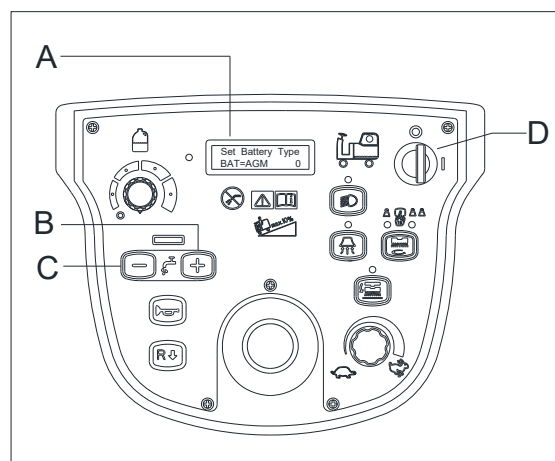

Figure 4
2. Press flow adjusting buttons “+” and “-“ (B, C Figure4). Turn the ignition key (D, Figure4) to “I” tap position.
3. Release flow adjusting buttons. “Set Battery Type BAT=AGM 0” will be showed on LCD screen (as Figure 4 A).
4. Then, you can setting the battery type through pressing button “+” and “-“ (B, C Figure4).